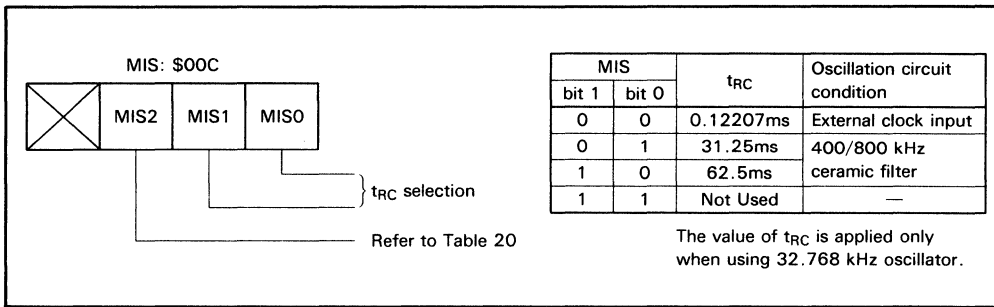

Figure 34. Miscellaneous Register
Interrupt Frame: In Watch mode and Sub-Active mode, the time-base clock (ϕ_{CLK}) is applied to timer A and the \overline{INT}_0 circuit. Prescaler W and timer A operates as the time-base and generate the timing clock for the interrupt frame. The interrupt frame period (T) depends on the state of the miscellaneous register as shown in figure 34.